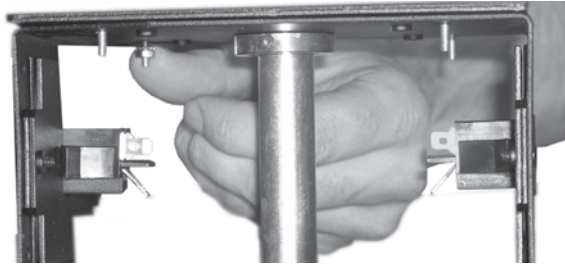

Figure B-6 — Securing the top plate to the lifting plate
- j. Using the four 1/4" nuts that you removed in step 2h, secure the top plate to the lifting plate (figure B-6).